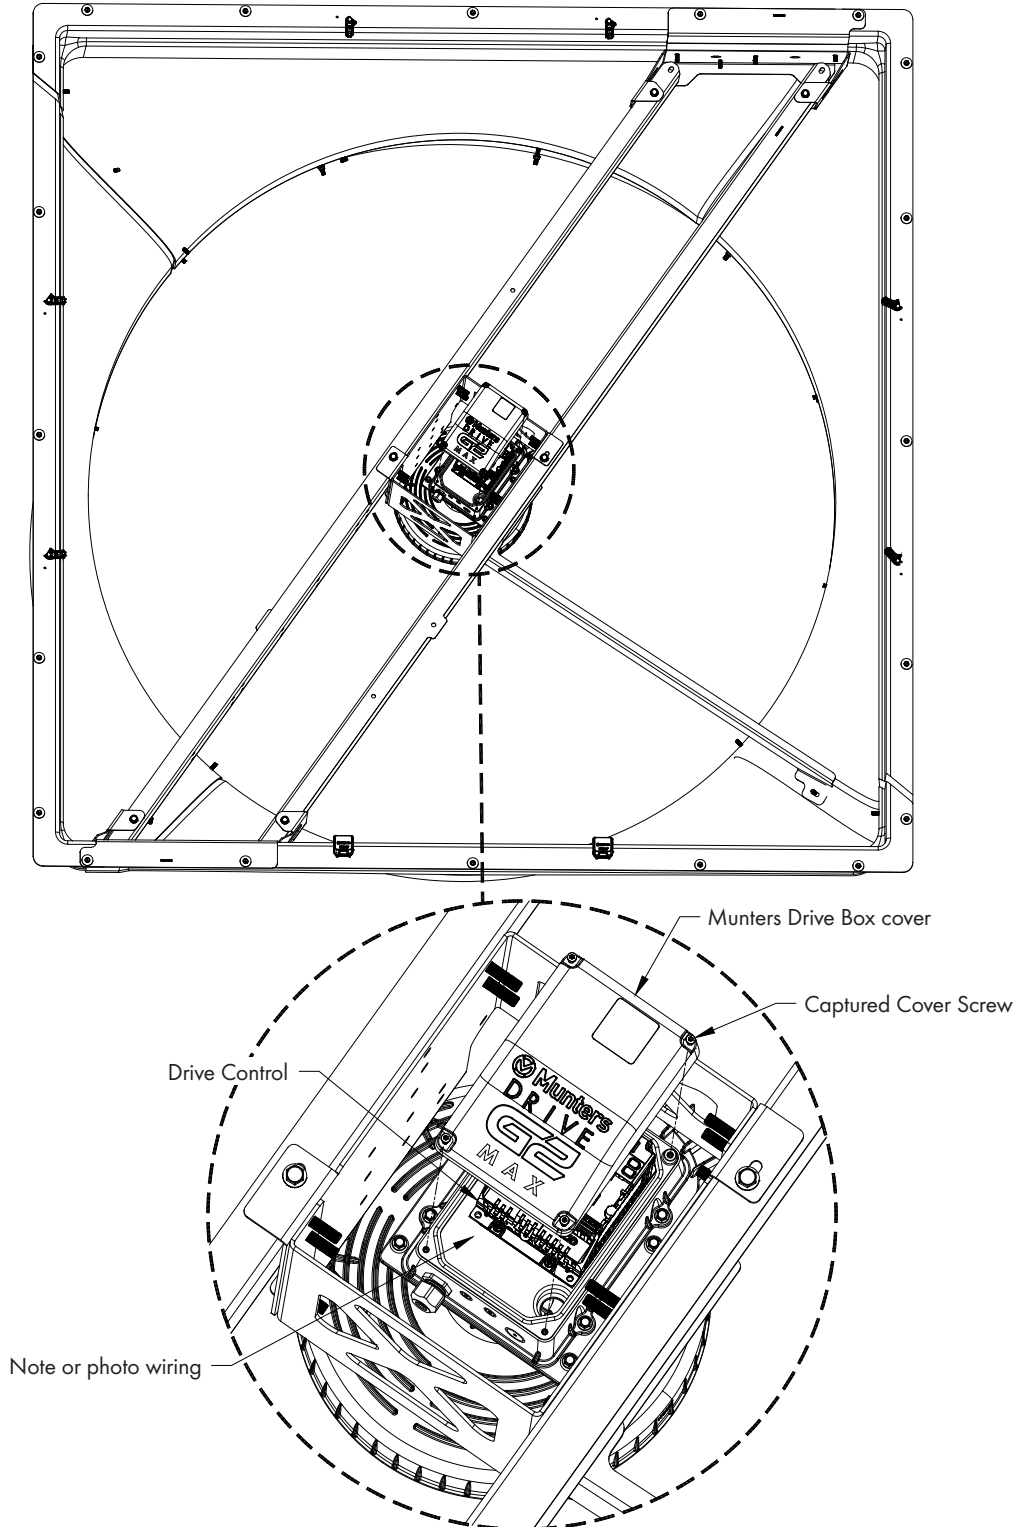

Figure 2
Loosen the (4) captured screws in the Munters Drive Box cover to access the drive wiring. Make a note of or take a photo of the wiring. Disconnect 3 phase power and the control wires from the drive and from the box. See Figure 2.